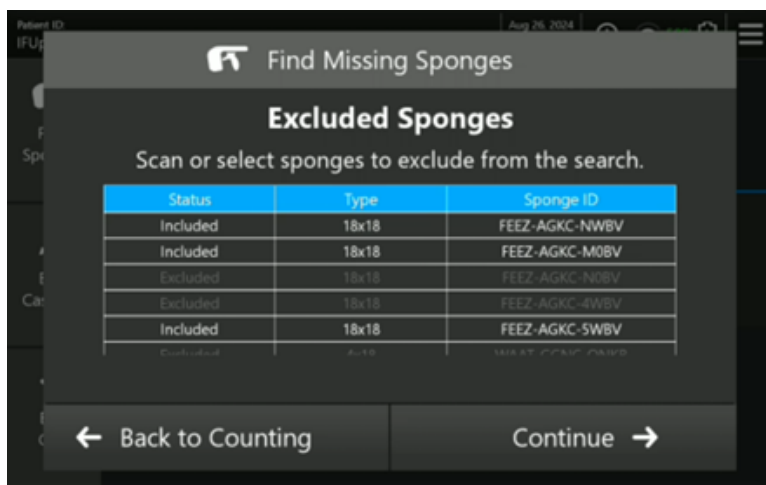

Figure 24 – Exclude Sponge(s) from the Search
4. If **Search for selected sponges** was tapped – tap on sponge(s) to exclude from search (Figure 24).